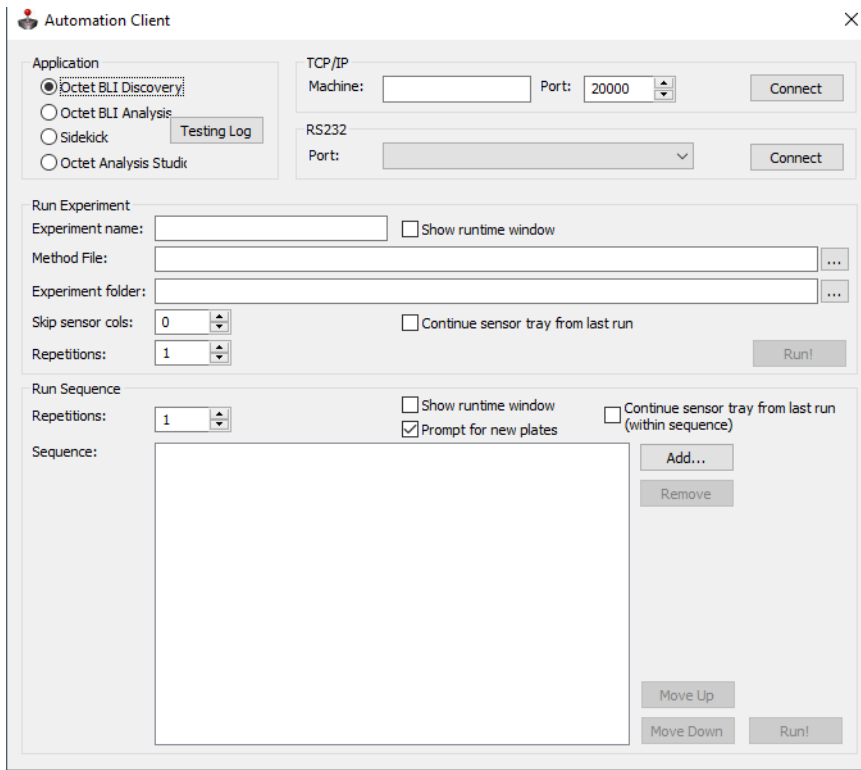

Figure A-2: Automation Client Window
3. Launch **AutomationClient.exe** located in the C:\Program Files\Sartorius\OctetBLIDiscovery directory to display the **Automation Client** dialog box (Figure A-2).